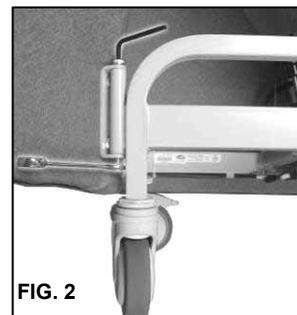

FIG. 2
4. Re-install the screws removed in STEP 2 and tighten to a snug fit. (FIG.2)
2. Insert the "Spacer" into the U-Bracket" (FIG. 2) and place onto chair frame.
and should be placed as shown. (FIG.2)
3. Using a ½" wrench & a 3/16" allen wrench unscrew the swing-arm hinge bolt. (FIG.2)
7. Use (FIG.2) as reference to assist in locating the holes for the IV bracket in the arm panel.
9. Line up the "O2 Mounting Bracket" with the holes in the arm panel. (FIG.2)